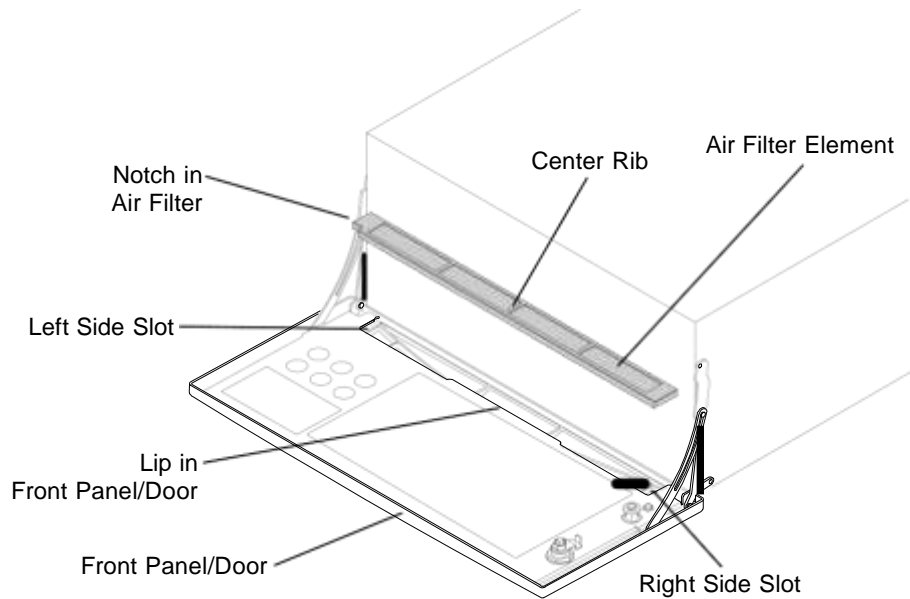

Figure 14-6 Air Filter with the Front Panel/Door Open
1. Visually inspect the air filter element at the bottom of the front panel/door (Figure 14-6).